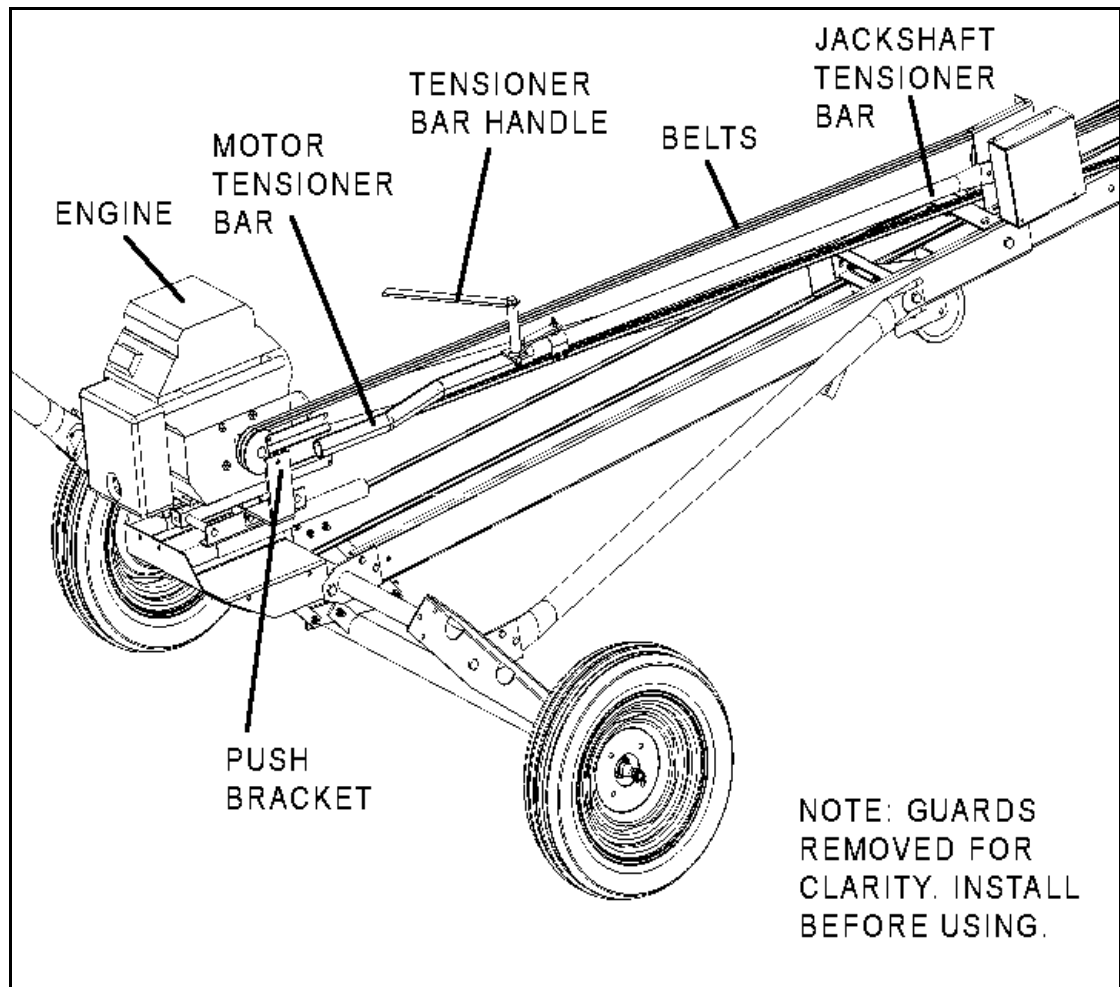

Figure 3.27 Gas Engine Belt Installation
1. Attach motor tensioner bar (motor end) to push bracket with one 7/16" x 1-1/4" bolt and locknut (Figure 3.27).